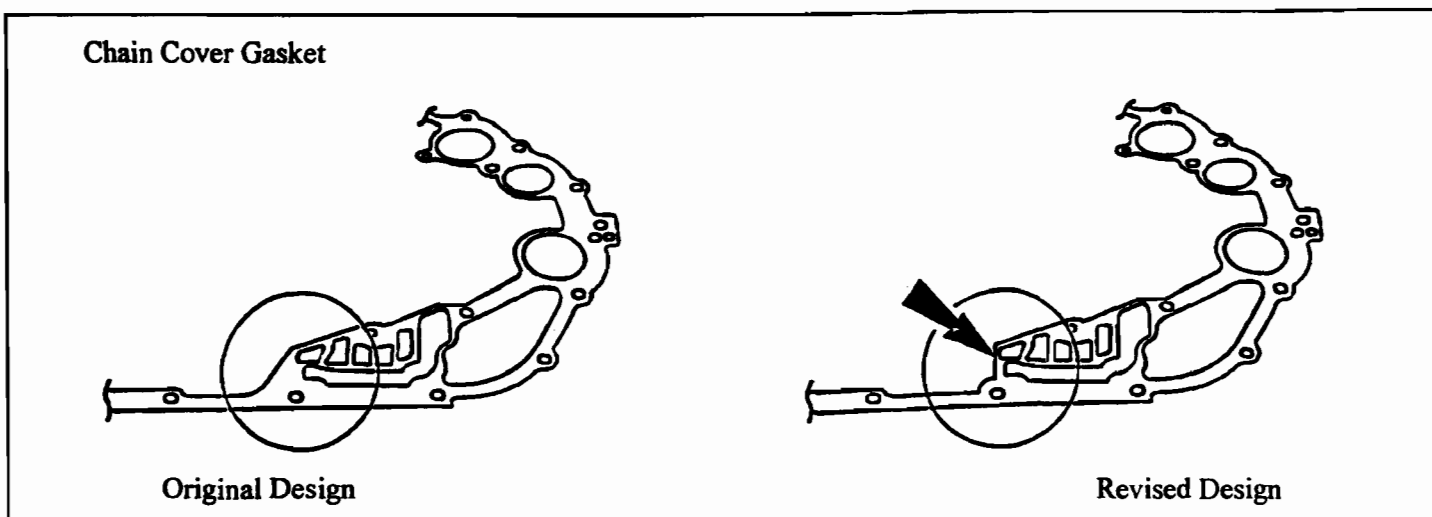

Figure 13
- Figure 13-Chain Cover Gasket